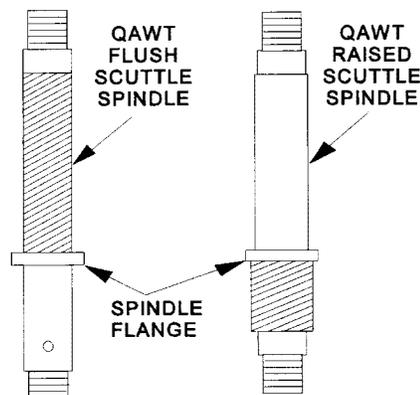

Figure 2-28. Quick-Acting Watertight Scuttle Spindles
- d. With the scuttle completely dogged down tight, grasp the handwheel. Play in the handwheel indicates that the wheel nut is loose or the square spindle hole in the handwheel itself is rounded out. Tighten the nut or replace the handwheel if the square hole is rounded out. If the handwheel nuts are tight and the handwheel can be pulled up and down, the flange formed into the spindle has broken free and the spindle must be replaced. This problem is caused by overtightening (dogging down) the scuttle. See figure 2-28.